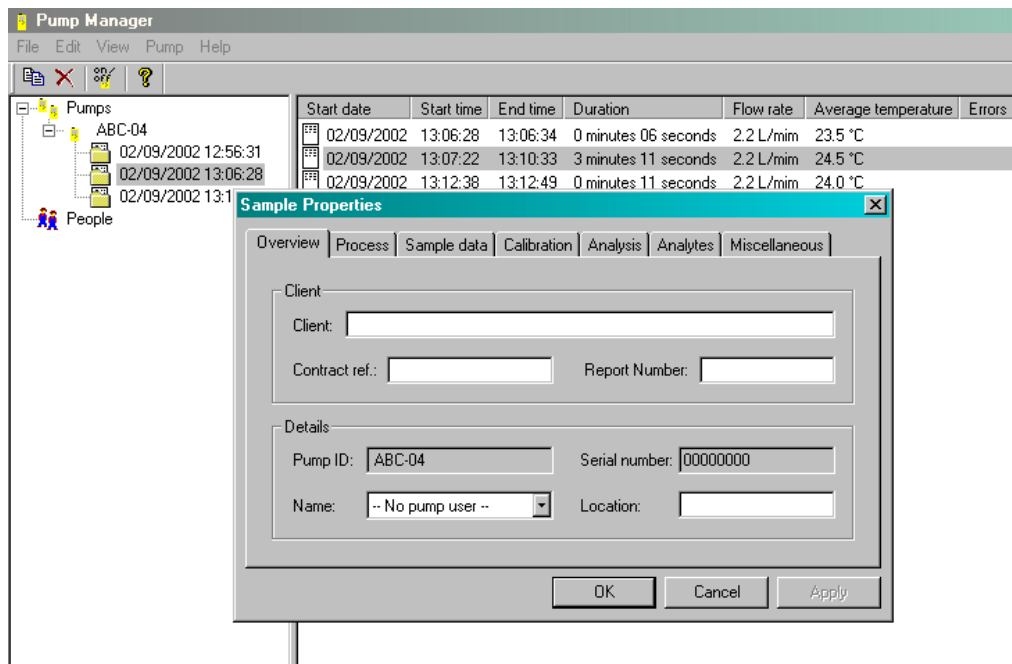

Figure 40 Sample Run Folder
F INSPECTING DATA, ADDING SUPPLEMENTARY INFORMATION AND PRINTING A REPORT (Fig. 40)
7. Enter information into these dialogs as relevant to the particular sample folder or report (Fig. 40).